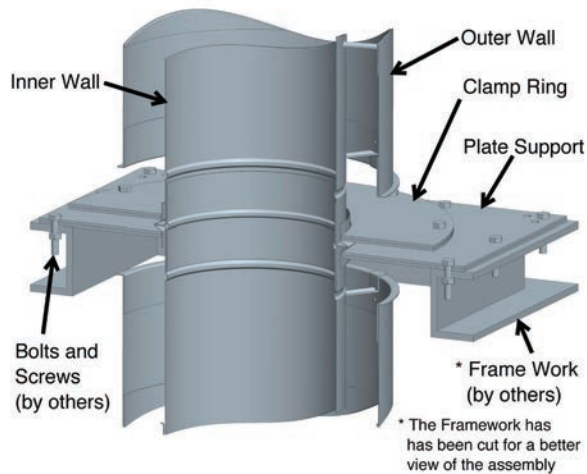
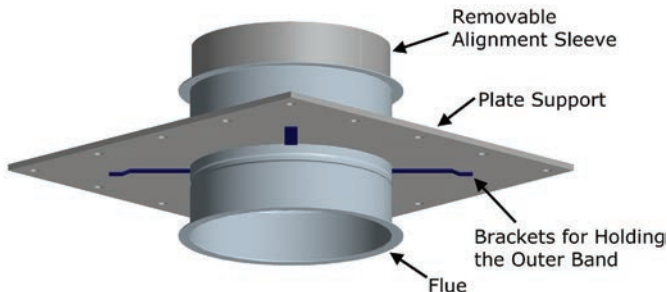

Figure 41a - Anchor Plate on Framing
Figure 43 - Anchor Plate with Length (APL)
The APL is an anchor plate integrated on a length. It cannot be used as a fixed support for vertical or horizontal installation because the anchor plate is free to move on the longitudinal axis of the length. Refer to the Anchor Plate (AP) for all the warnings / details, except for the installation. See **Figure 43** for detail of APL.
CAUTION: Small brackets must be on the bottom side so these can hold the outer band (BSE) against the support plates and to make sure the anchor plate is positioned in the middle of the inner wall when installed. See **Figure 43 to 46.**
NOTE: In the case of an Anchor Plate (AP), refer to **Figure 41a and 41b** for installation. For the Anchor Plate with Length (APL), Refer to a **Figure 43 to 46**. If it is not possible to suspend the Tee, it may be supported from the base (See **Table 5**) for maximum height for a base Supported Tee. When this type of support is necessary, access to the drain cap may be hindered. A structural steel stand can be used to allow access to the Tee Cap (TC) or Drain Tee Cap (DTC).
NOTE: In the case of an Anchor Plate (AP), refer to **Figure 41a** and **41b** for installation .